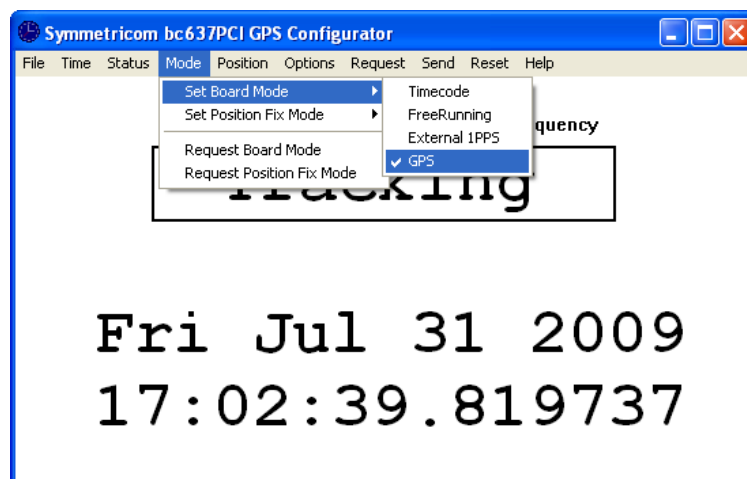

Figure 2-13: bc637 Menus
2. Click on the bc637PClcfg.exe desktop icon to execute the program. The card will start counting using the RTC value, until lock is achieved. The TFP unit is locked to GPS, and decoding UTC time when the tracking LED, indicated by the letter "T" in the GUI shown in Figure 2-13, is green.